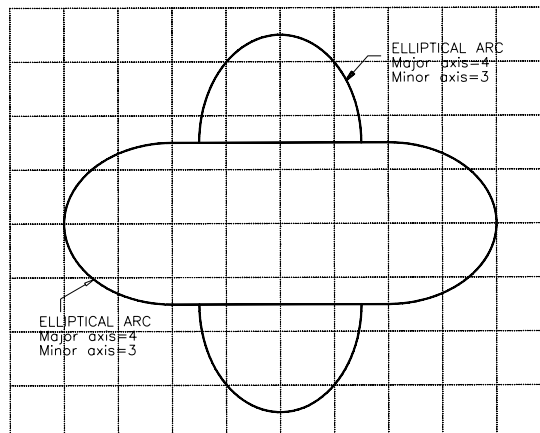

Figure 3-38 Drawing for Exercise 8
- Make the drawing, as shown in Figure 3-38. The distance between the dotted lines is 1.0 unit. Create the elliptical arcs using the **ELLIPSE** command options.